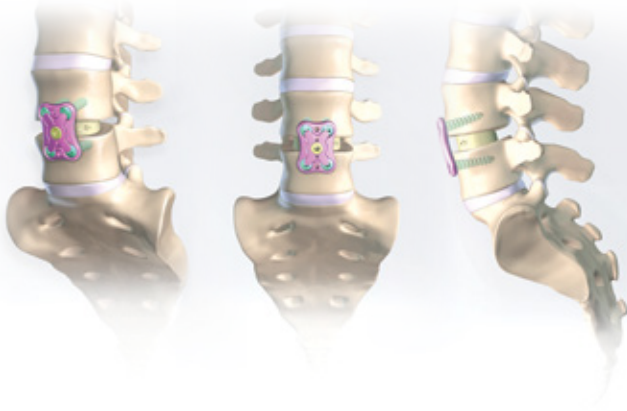

Figure 11
- Inspect the final implant for correct position and assembly (**Figure 11**).